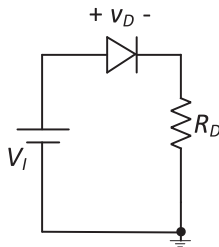

Figure 46.1 Circuit diagram to simulate the diode characteristics.
1. Construct the circuit as shown in Figure 46.1 on the circuit simulator. Use the MUR1560 power diode available in the component library. Let $R_D = 10\ \Omega$. For readers using PSpice, the spice model of MUR1560 power diode is provided in Appendix F.